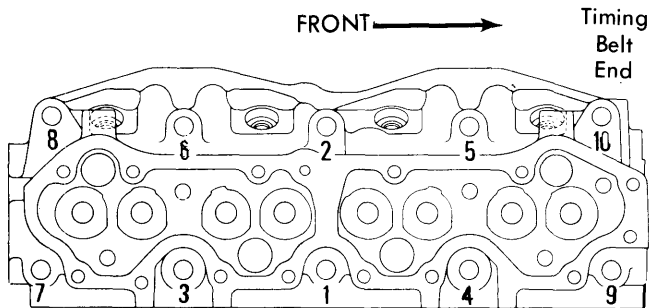

Fig. 1 Cylinder Head Tightening Sequence
- 5) Thoroughly clean all gasket surfaces on cylinder head and block. Use new gasket with word "ALTO" facing up when installing head. Tighten bolts and nuts in sequence shown in Fig. 1 in two steps: first to about 29 ft.lbs. (4.0 mkg), and then to final torque of 69 ft.lbs. (9.5 mkg). Complete assembly in reverse order of removal. See *Timing Belt Replacement*.